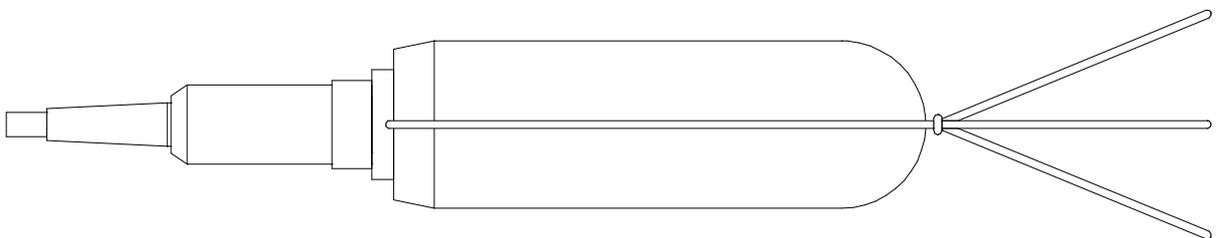

Fig. 1.6. Completely assembled weatherproof microphone WK-21WP.
- Fig. 1.6 shows completely assembled weatherproof microphone WK-21WP.